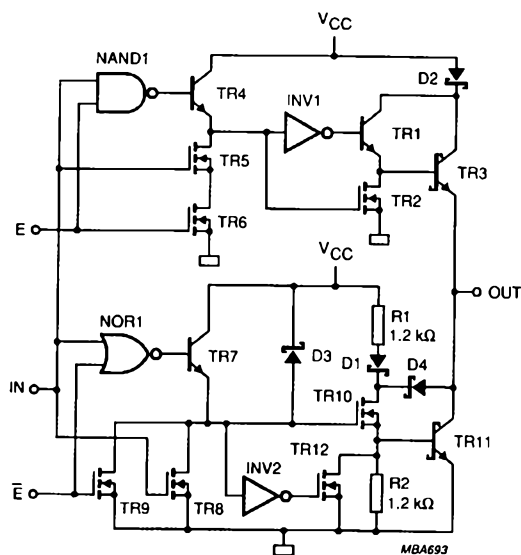

Fig.2 ABT basic cell
Figure 2 is the circuit diagram showing the signal input (IN), the enable inputs (E and \bar{E}) and the output (OUT).